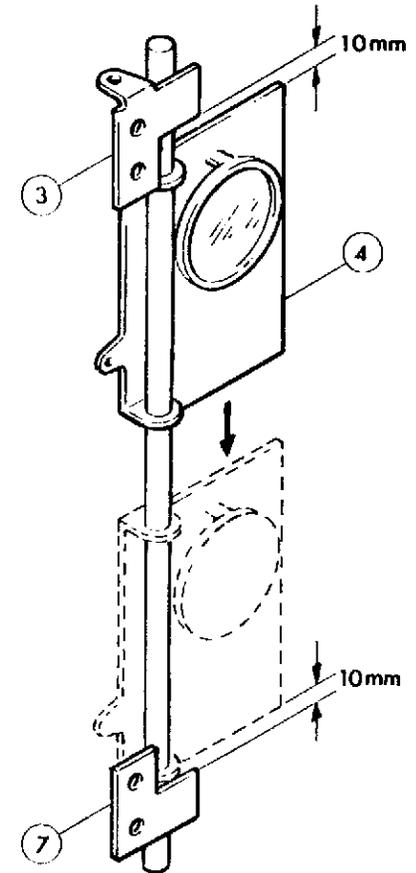

Fig.32
1. Make sure that (4) can move smoothly.
2. Attach (4) without inclination where it does not touch with the lamp case in operation..
3. Adjust the operation area of (17) by bending (1) so that a clearance between (3) and (4) is 1.0mm when the operation knob is at OFF as shown in Fig. 32.
4. Adjust the position of (21)(9) where light passes thru a heat-proof glass when the operation knob is at STILL.
5. Adjust the position of (17) where a clearance between (4) and (7) is within 1.0mm when the operation knob is at FORWARD as shown in Fig. 32.